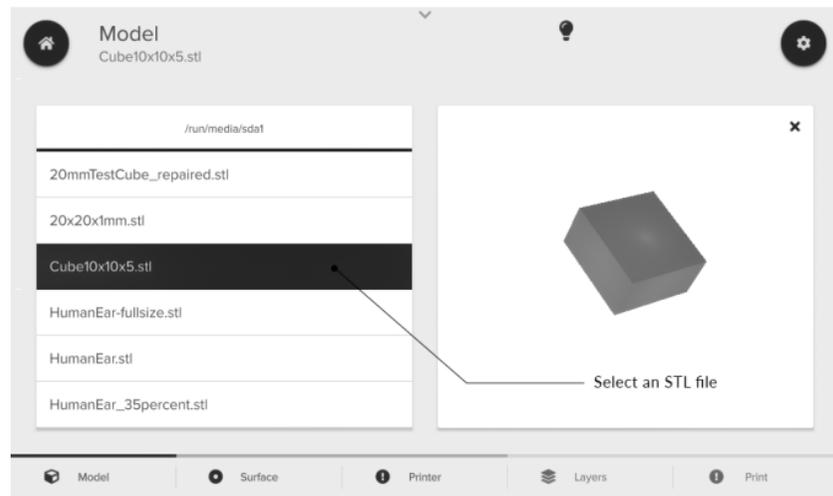

Figure 12: Selecting an STL file from the Model menu.
- Select an STL file (filename.stl) or G-code file (filename.gcode) from the Model menu (Figure 12). Proceed to the next menu by selecting Surface along the bottom of the screen.